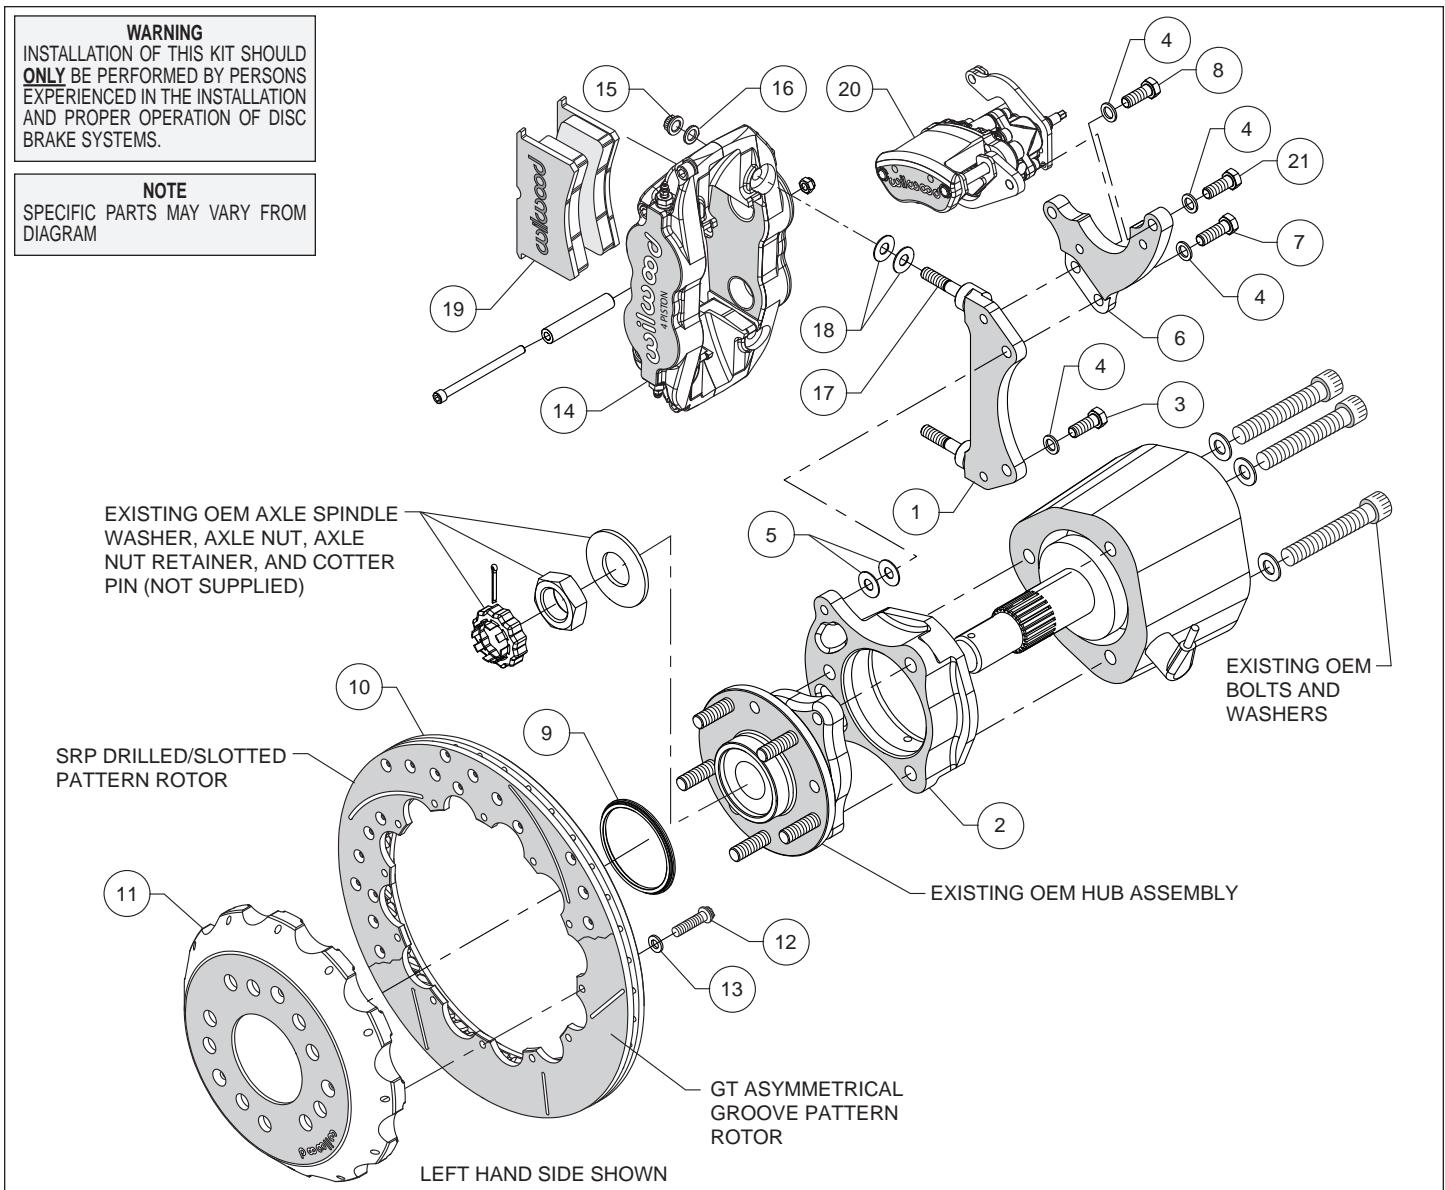
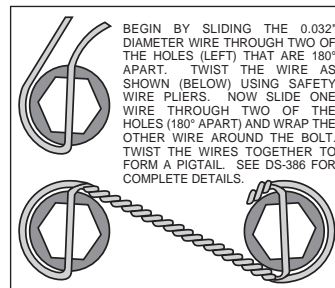

Figure 1. Typical Installation Configuration
Figure 3. Safety Wire Diagram
Assembly Instructions (numbers in parenthesis refer to the parts list and Figure 1 on the preceding pages):
- The caliper and parking brake mount brackets should initially be installed with clean, dry threads on the mounting bolts. Orient the parking brake bracket (6) and caliper bracket as shown in Figure 1 and Photo 1. Attach parking brake bracket using top bolt (8) and washer (4) (arrow). Do not tighten.
- Attach the radial mount caliper bracket (1) to the axle hub bracket (2) using bolts (3 and 7) and washers (4) as shown in Figure 1 and Photo 1. Initially place two .035" thick shims (5) on bolts (3 and 7) between the radial bracket and axle hub bracket, Figure 1. Temporarily tighten all three bolts. Later, after the caliper alignment has been checked, the mount bolts will be secured using red *Loctite*® 271.
- Orient the caliper bracket assembly (1, 2 and 6) as shown in Figure 1 and Photo 2. **NOTE:** *The bracket assembly must fit squarely against the face of the upright.* Inspect for interference from casting irregularities, machining ridges, burrs, etc.
- Slide the rotor registration adapter (9) onto the axle register on the hub assembly with the smaller O.D. facing outward, Photo 4.
- Orient the rotor (10) and the hat (11) as shown in Figure 1 and Photo 5. Attach rotor to hat using bolts (12) and washers (13). Using an alternating sequence, apply red *Loctite*® 271 to the threads, and torque to 155 **in-lbs**. For an added measure of security, the bolts may be safety wired using standard 0.032 inch diameter stainless steel safety wire as shown in Figure 3. Please refer to Wilwood's data sheet DS-386 (available at www.wilwood.com/Pdf/DataSheets/ds386.pdf) for complete safety wire installation instructions.
in Figure 1 and Photo 7. Mount the caliper (14) onto the bracket (1) using lock nuts (15) and washers (16), Figure 1. Temporarily tighten the lock nuts and view the rotor through the top opening of the caliper. The rotor should be centered in the caliper, Photo 8. If not, adjust by adding or subtracting shims (5) between the radial bracket (1) and the axle hub bracket (2). Always use the same amount of shims on each of the two mounting bolts. Once the caliper alignment is correct, remove the radial/MC4 bracket mounting bolts (3, 7 and 8) one at a time, apply red *Loctite*® 271 to the threads, and torque bolts to 35 ft-lb.
- Mount the parking brake caliper (20) onto the top section of the caliper bracket assembly (1 and 6) using bolts (21) and washers (4), as shown in Figure 1 and Photo 12. Apply red *Loctite*® 271 to bolt threads, and torque to 30 ft-lb.